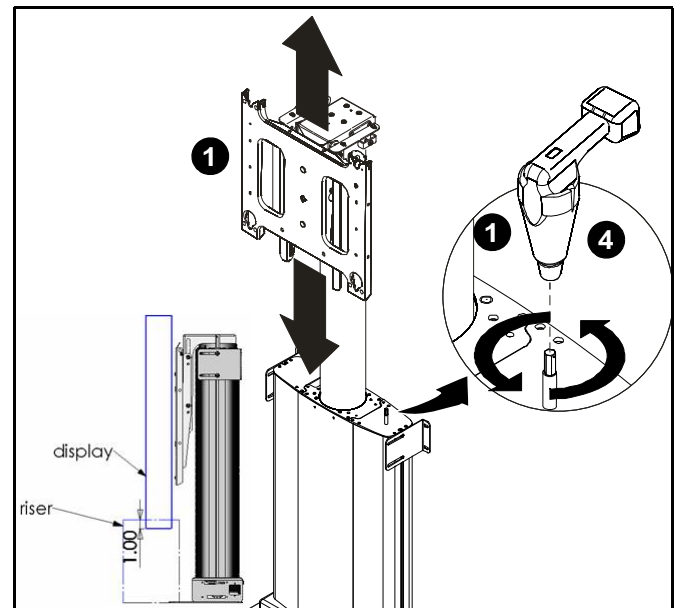

Figure 3
The lift is designed for the display to lower into a cabinet and allow for 1" or mount overtravel after the bottom of the screen makes contact with the cabinet. This allows the faceplate to float in the middle of the slots preventing shock damage during transit. A 1" high rest should be in place to allow the bottom of the display bottom out. (See figure 3)
1. Raise the mount using a drill and 7/16" socket until locknuts on back side of faceplate can be accessed. (See figure 3)
5. Using a drill with a 7/16" socket, lower the mount until it stops. (See figure 3)
6. Raise lift following instructions in step 1. (See figure 3)